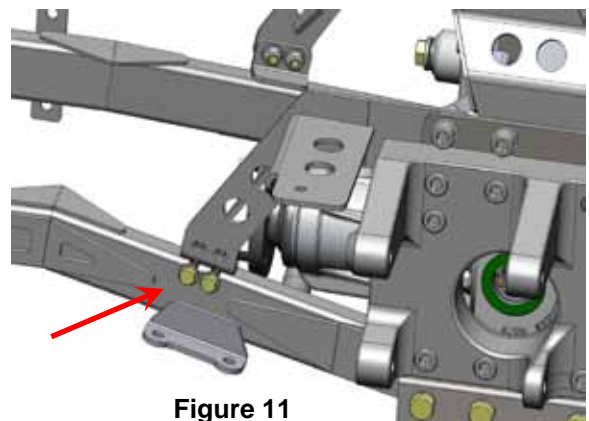

Figure 11
- e. Install the supplied  $\frac{5}{16}$ " bolts, washers, and nylock nuts to secure the middle bracket to the swingarm. See Figure 11.